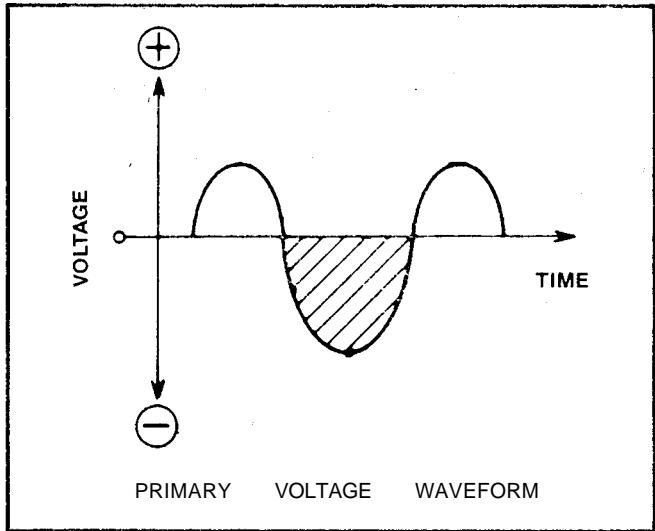
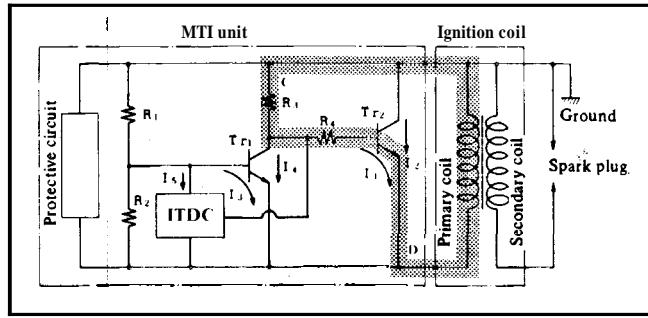
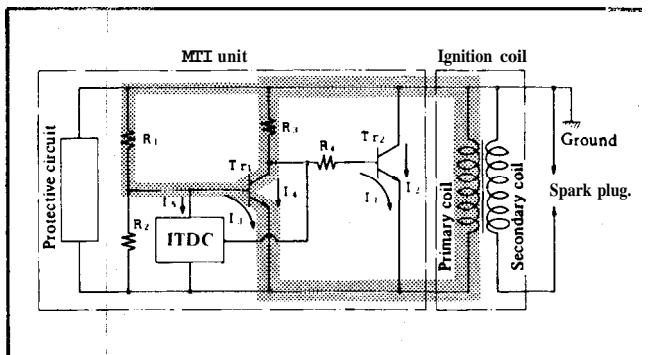

Figure 30
Figure 33
Figure 35
Before getting into the actual electronics used inside the trigger circuit, it is important to have an understanding of the voltage waveform produced by the flywheel magnets moving by the ignition coil. See Figure 30.
2. As the voltage begins to increase (approximately point "a" in Figure 30), transistor Tr_2 is turned on and current flows from point "c" to point "d" through R_3 , R_4 , and Tr_2 . See Figure 33.
4. When the voltage is at the point "a" level as denoted above in Figure 30, Tr_1 is still in the "off" mode and allows no current I_3 or I_4 to flow. See Figure 35.
- As the voltage produced in the primary coil reaches its negative peak (point "b" in Figure 30), transistor Tr1 is turned on and allows small current I_3 and large current I_4 to flow.